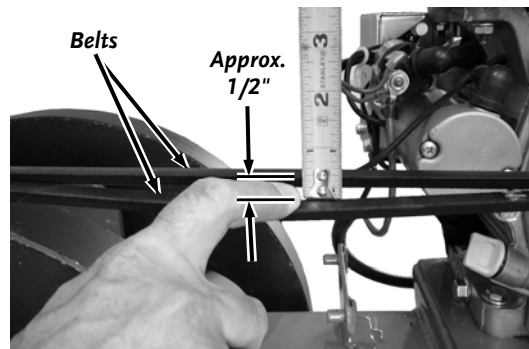

Figure 32
7. Adjust the Belt Tensioner by holding the Bolt head with one 9/16" Wrench while turning the Locknut with another 9/16" Wrench until there is 1/2" of slack in the Belt(s) (**Figure 32**).